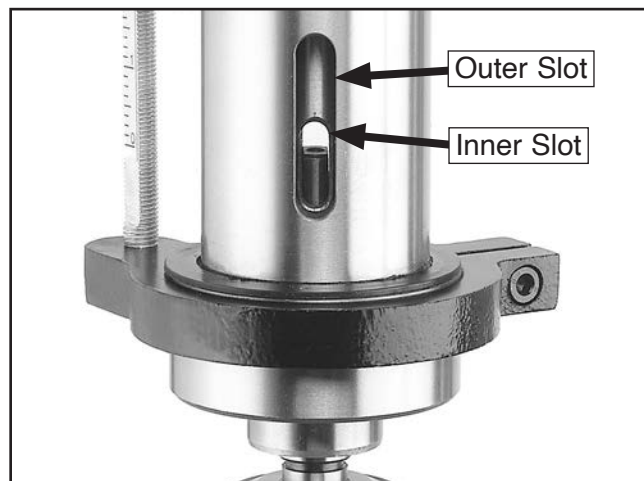

Figure 29. Example of inner and outer drift key slots aligned.
4. Rotate spindle until inner drift key slot is aligned with outer slot (see **Figure 29**). You will see through spindle when slot is properly aligned.